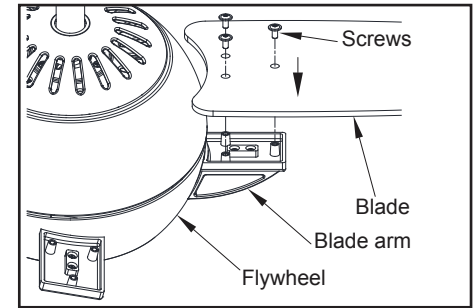

Figure 11
1. Align the three screw holes in the blade with the screw holes in the blade arm and secure with the screws provided. (Figure 11)